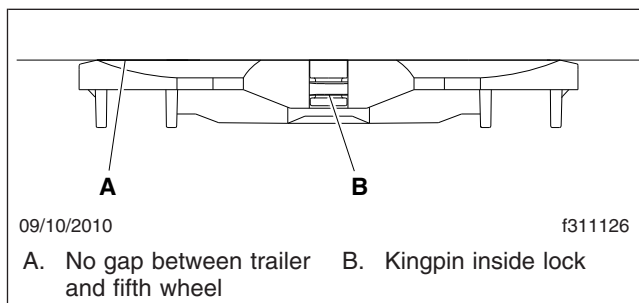

Fig. 18.6, Coupling Inspection
8. Perform a coupling inspection, checking that there is no gap between the bottom of the trailer and the fifth wheel, and that the kingpin is securely locked. See Fig. 18.6
that there is no gap between the trailer and the fifth wheel. See Fig. 18.6.